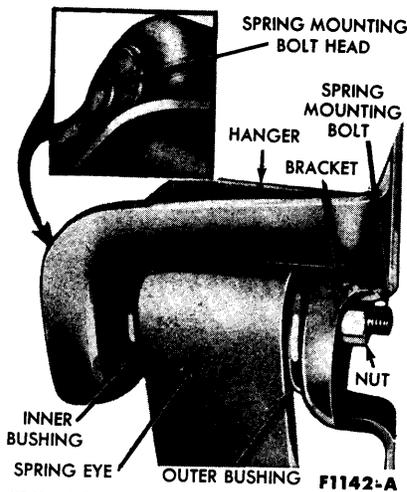

FIG. 13—Rear Spring Front Hanger Assembly
1. Remove the nut from the spring mounting bolt, and remove the bracket from the bolt and hanger (Fig. 13).
3. Position the inner bushing and hanger to the spring eye, position the outer bushing to the spring eye, then insert the spring mounting bolt (Fig. 13). **Be sure that the bolt head is fully seated in the hanger (Inset, Fig. 13).**
4. Assemble the bracket to the spring mounting bolt and hanger, install the nut, and torque to specification (Fig. 13).